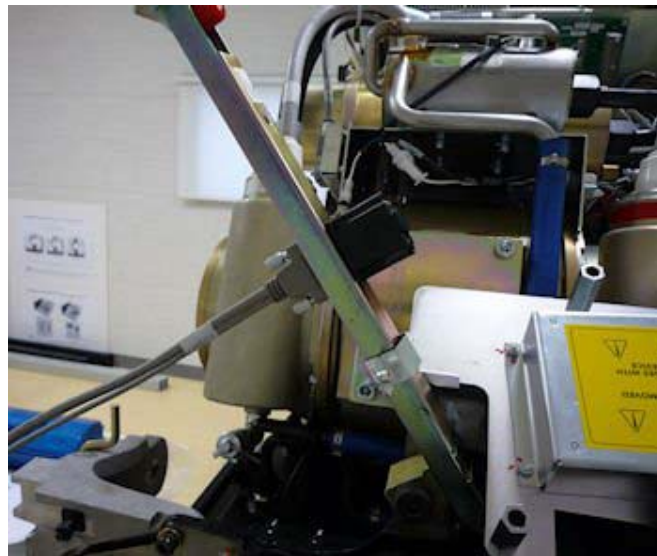

Figure A-26 Gantry Service Mode Cable Terminator
- d.) Connect FCVR BKHD J1 cable to terminator located on the cantrell arm. See Figure A-26.